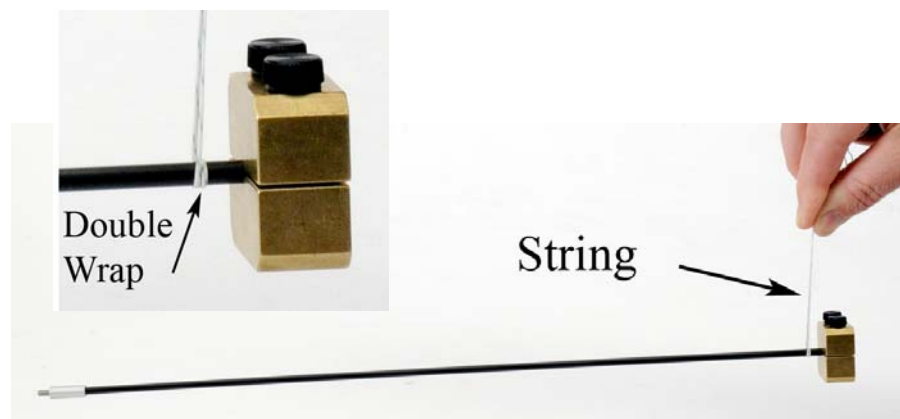

Figure 7: Finding the Center of Mass of the Pendulum
5. Use a piece of string (see Fig. 7) to balance the pendulum and find the center of mass.